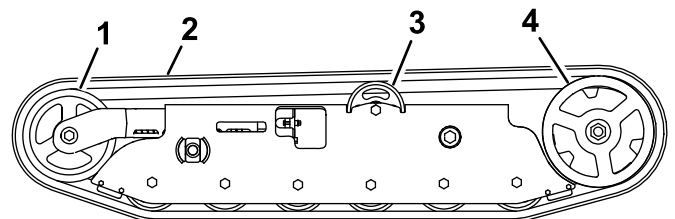

Figure 37
**Important:** Ensure that you fully clean the road wheels, the front wheel, and the drive sprocket (Figure 37). The road wheels should rotate freely when clean.